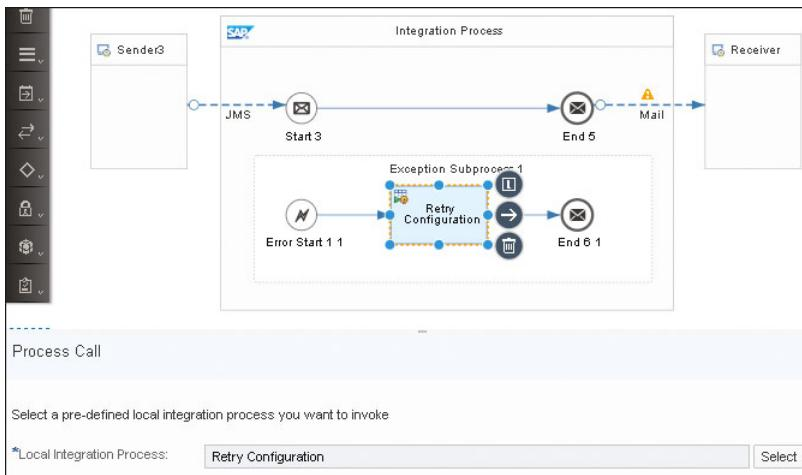

Figure 5.103 Configuration of the Process Call in the Exception Subprocess
5. Add a **Process Call** (from the **Call ↗** shape, submenu **Local Call**), and place it between the **Error Start** event and the **End** event of the newly added **Exception Subprocess**. In the properties area for the **Process Call**, select the local integration process **Retry Configuration** created before (Figure 5.103).